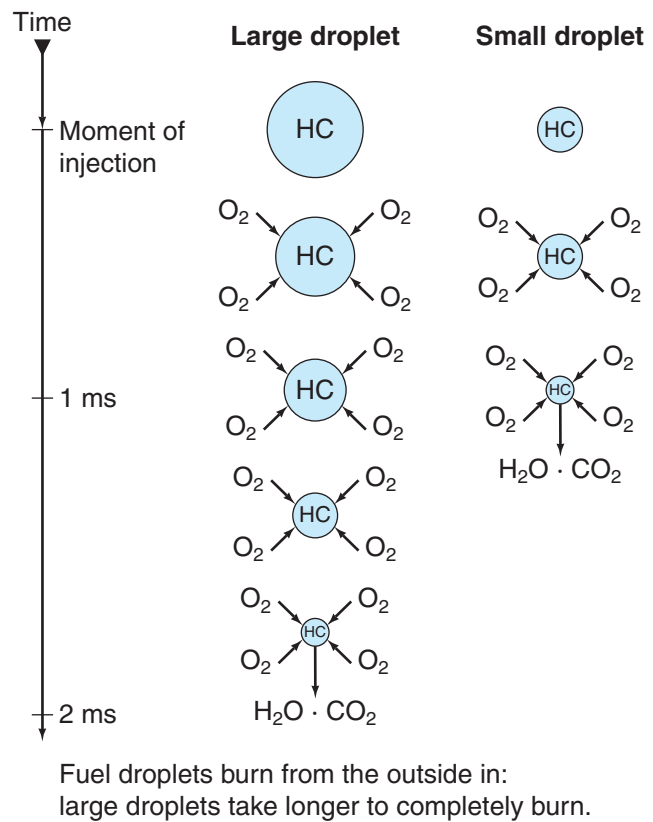

Figure 13-5 Atomized droplet size and speed of combustion.
injected droplet size in the atomized fuel reduces. This reduction in droplet size coincides with the reduction in real time available to burn the droplets injected late in the injection pulse. **Figure 13-5** shows how the size of an injected fuel droplet influences the speed of combustion: the fuel droplet is identified as hydrocarbon (HC) and the air it reacts with as oxygen (O₂) in this image.